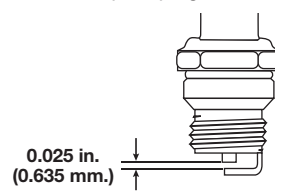

Fig. 34
3. Replace a cracked, fouled or dirty spark plug. Set the air gap at 0.025 in. (0.635 mm) using a feeler gauge (Fig. 34).